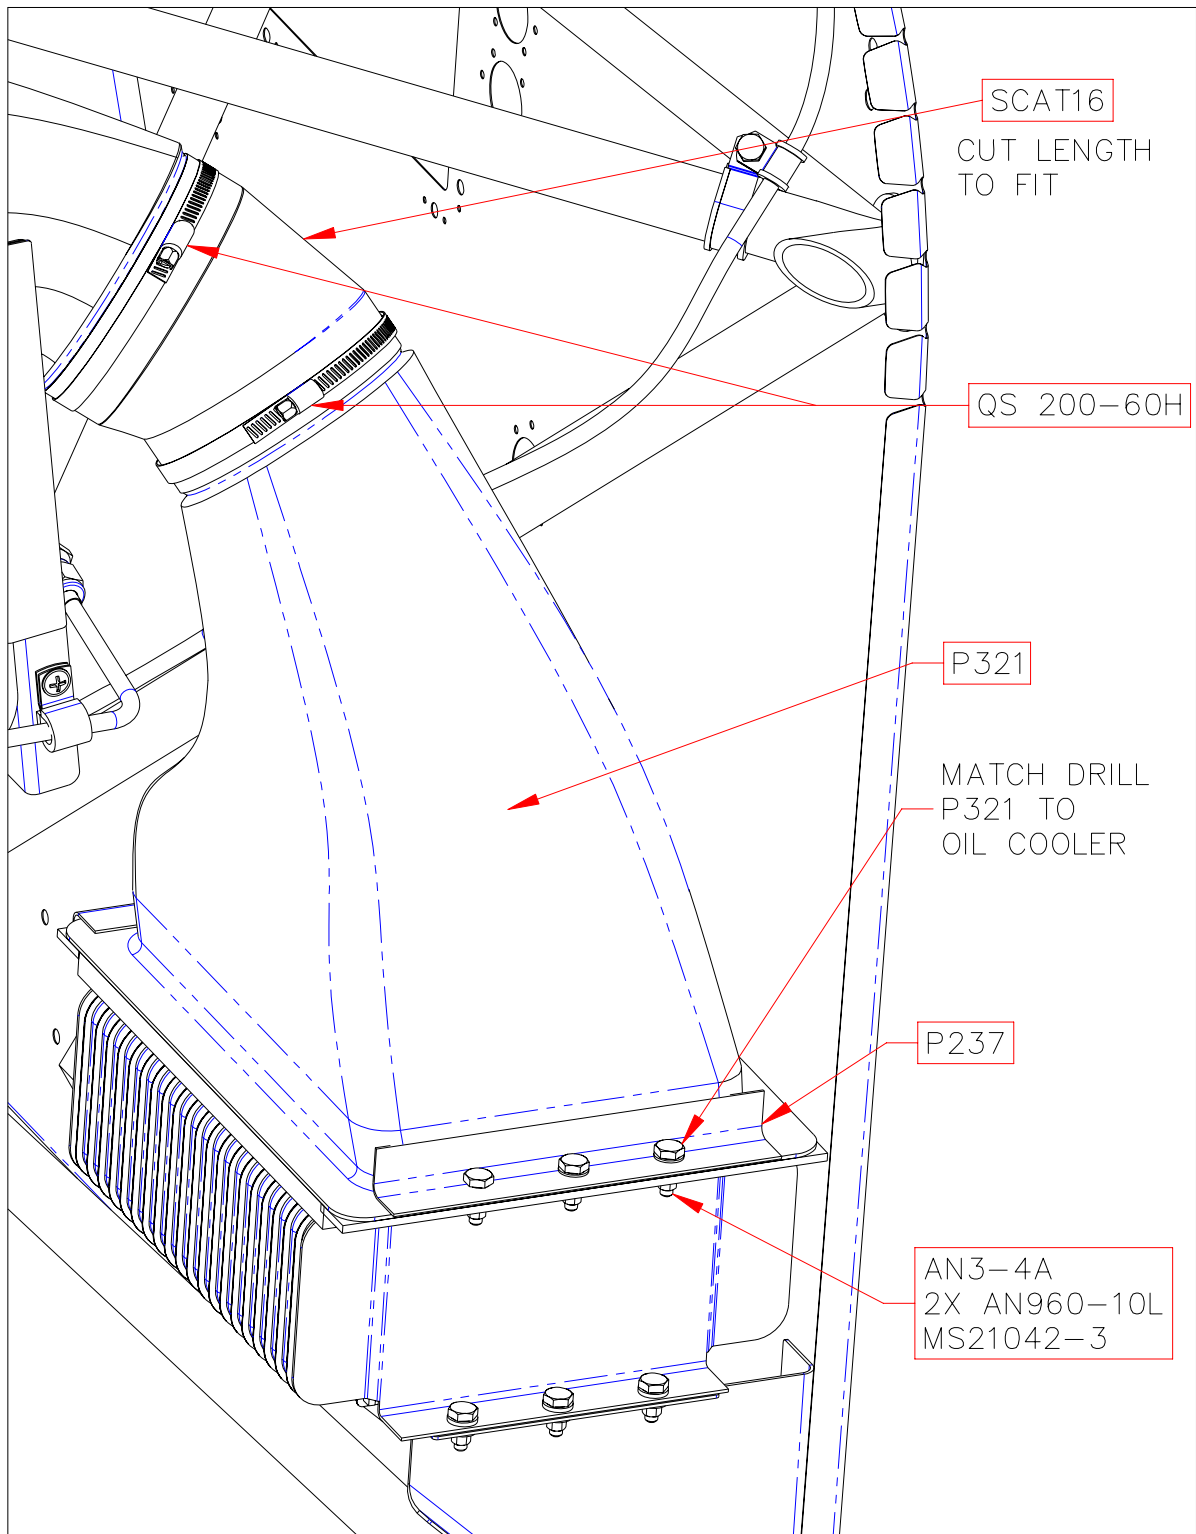

FIGURE 10 P321 INSTALLATION
14. Install P321 Diffuser per Figure 10.